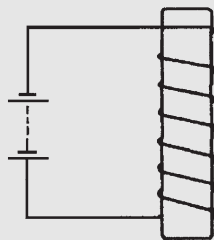
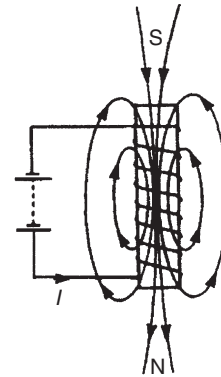

Figure 8.5
Figure 8.6
**Problem 1.** Fig. 8.5 shows a coil of wire wound on an iron core connected to a battery. Sketch the magnetic field pattern associated with the current-carrying coil and determine the polarity of the field.
The magnetic field associated with the solenoid in Fig. 8.5 is similar to the field associated with a bar magnet and is as shown in Fig. 8.6. The polarity of the field is determined either by the screw rule or by the grip rule. Thus the north pole is at the bottom and the south pole at the top.